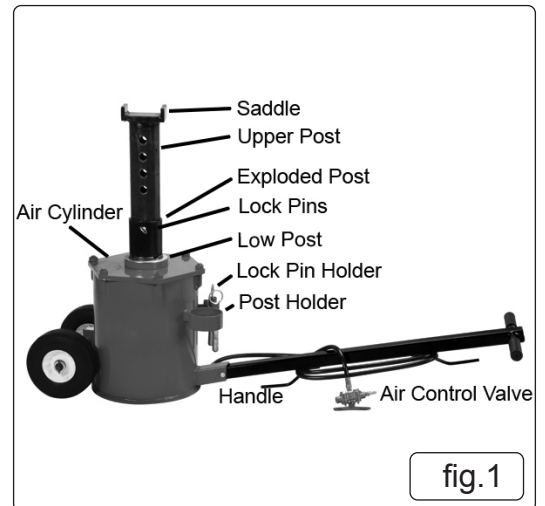

fig.1
- 4.1.1. Attached handle to the handle bracket (2 part) on cylinder set with bolts and nuts provided. fig.1